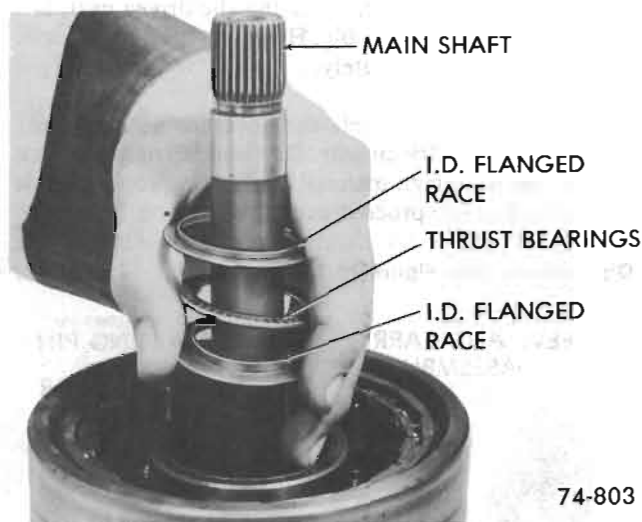

Figure 76-136
16. Lubricate with petroleum jelly and install center support to sun gear thrust races and bearing as follows: See Figure 76-136.